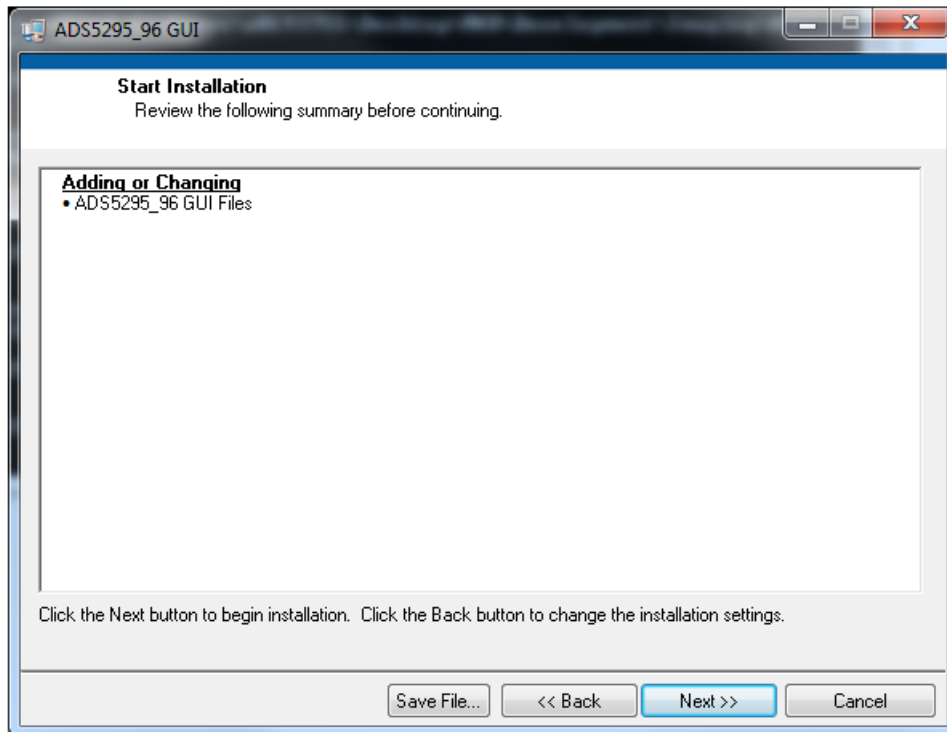

Figure 6. HSDCpro Install (e)
- Press the Next button as shown in Figure 6.